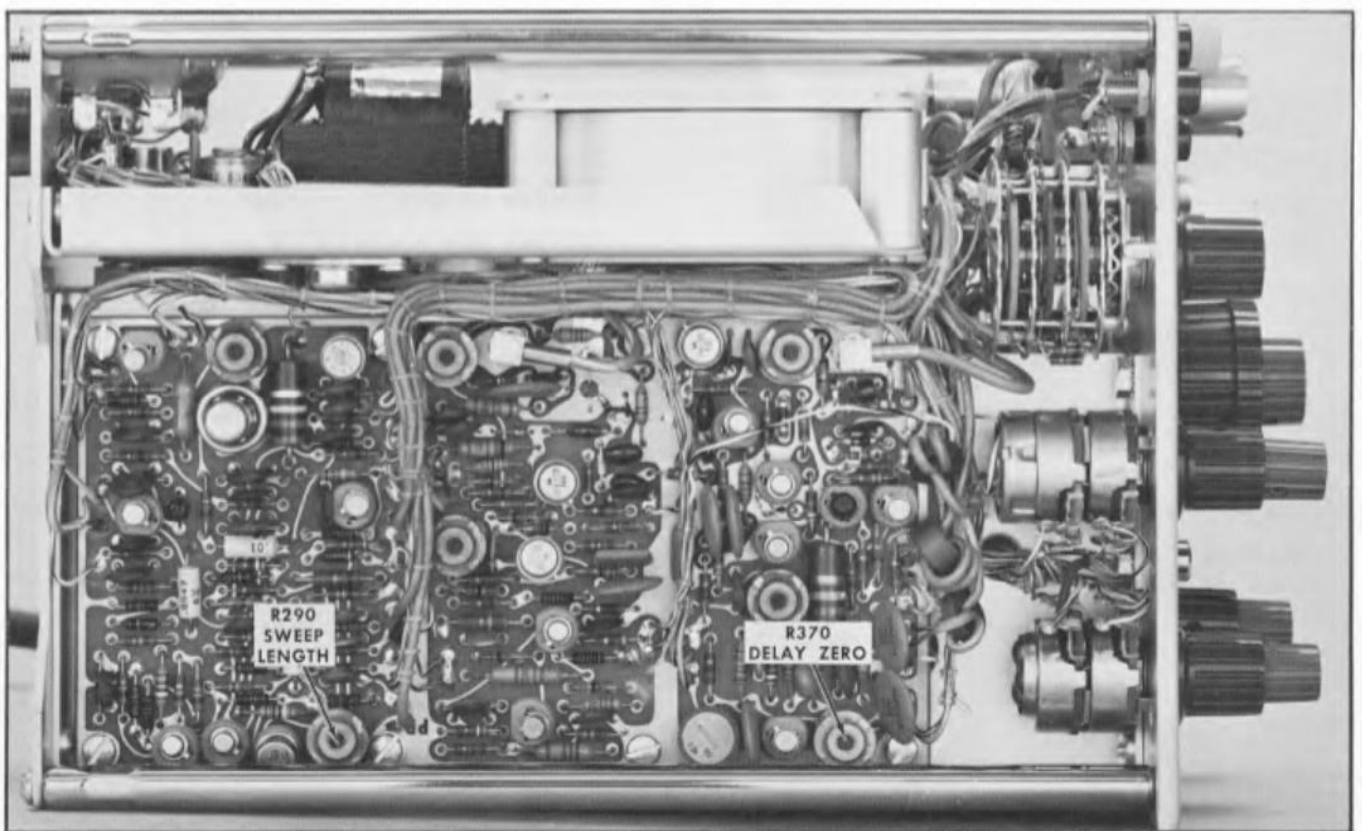

Fig. 5-24. Right side of Type 151 showing location of DELAY ZERO and SWEEP LENGTH controls. (Unit is positioned upside-down on test bench.)
- f. Adjust R370 (DELAY ZERO) to position the pulse rise at the 4-cm graticule line if the display is not as indicated. See Fig. 5-24 for the location of R370.
- c. Adjust R290 (SWEEP LENGTH) for approximately 10.2 cm of trace if the length was not between the given limits. See Fig. 5-24 for the location of R290.